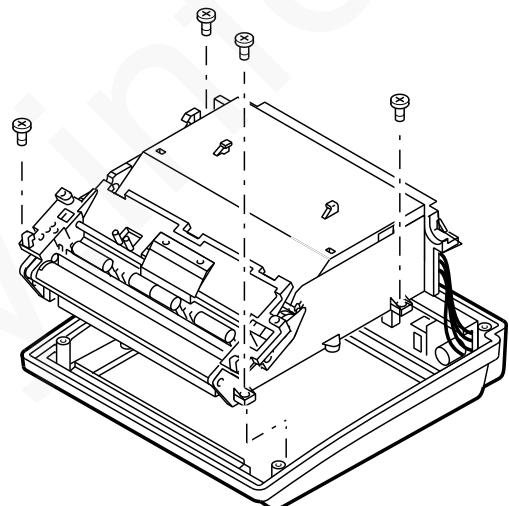

Figure 1. Main chassis
7. Remove four screws (figure 1) retaining the main chassis to the bottom cover.